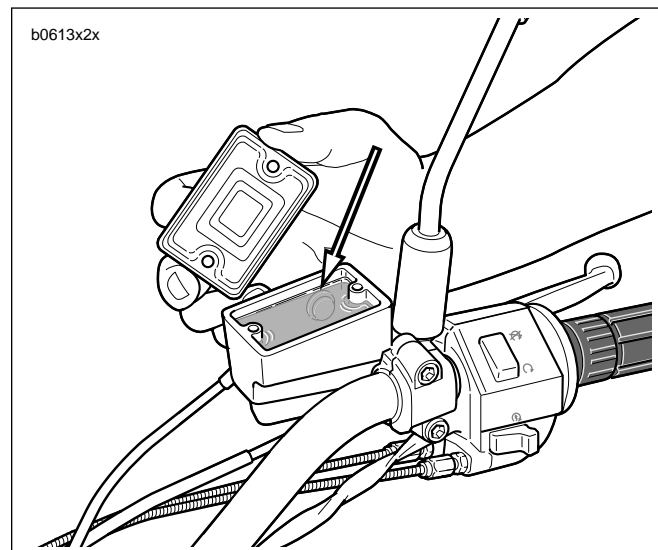

Figure 2-42. Brake Fluid Level (Standard Brake Reservoir Shown)
7. See Figure 2-42. With the master cylinder in a level position, add **D.O.T. 4 BRAKE FLUID**. Bring fluid level to within 1/8 in. (3.2 mm) of molded boss inside front master cylinder reservoir.